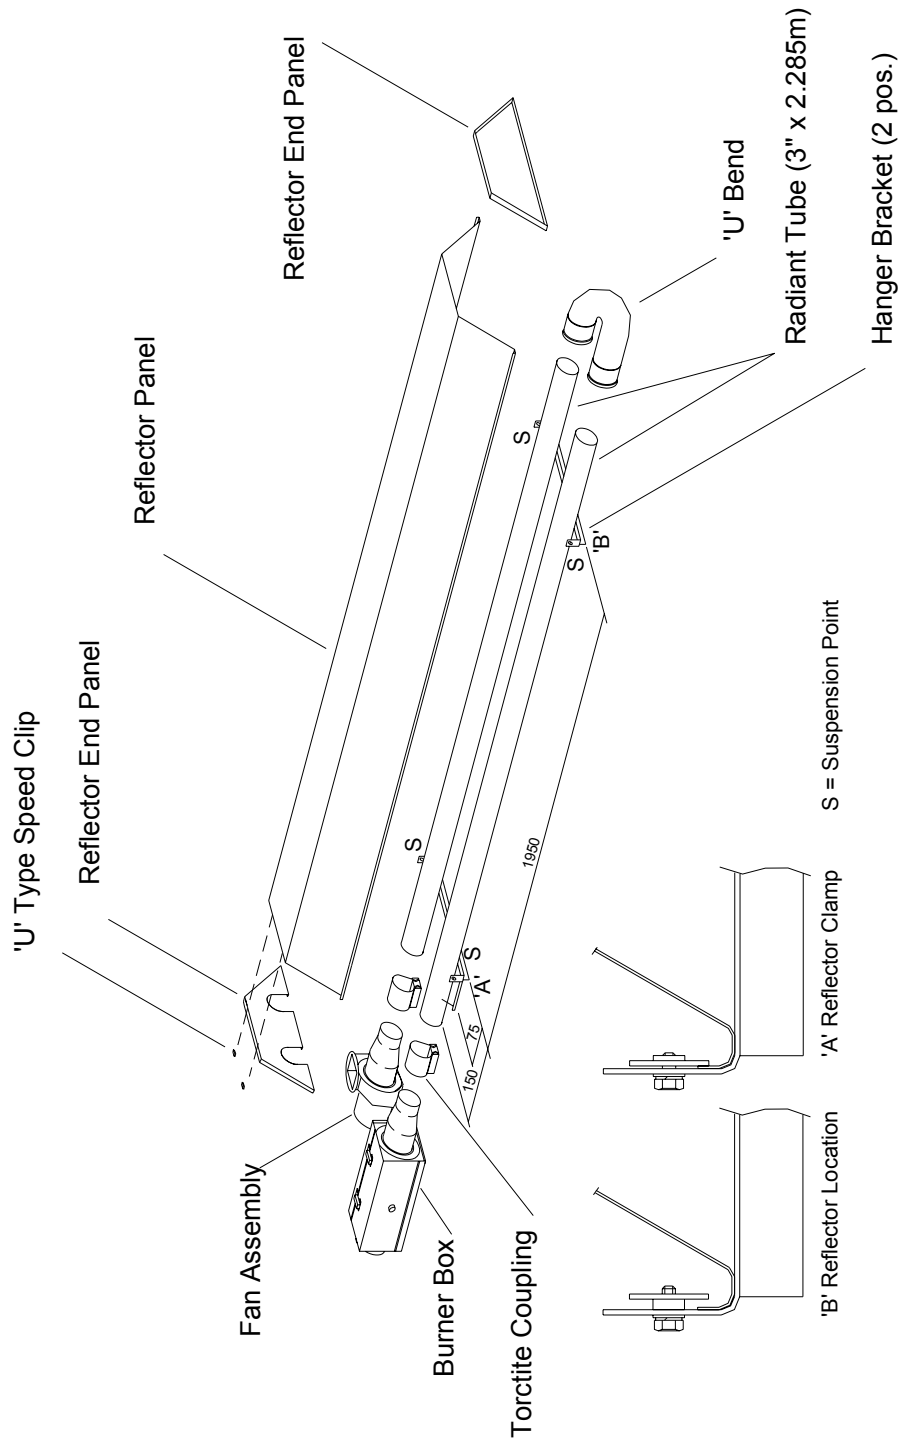

Fig. 17
- 6.1.2 Assemble the two Hanger Brackets to the Radiant Tubes using two 'U' bolts per bracket (from fastenings pack) and position along the Radiant Tubes as shown in Fig 17. Tighten the nuts sufficiently to retain the Hanger Brackets. Do not over tighten.
- 6.1.5 Place the Reflector Panel onto the Hanger Brackets, positioning the Reflector at the Control Box end between the bracket and the Torctite Coupling. Clamp the Reflector to the Hanger Brackets using the retainers and M6 setscrews and washers (fastenings Pack - qty 4) as shown in Fig 17.
- 6.1.6 Position the Reflector End Panel (notched) over the Radiant Tubes and into the end of the Reflector Panel with the End Panel flange flush with the end of the Reflector. Secure the Reflector End Panel to the Reflector Panel by use of 6 'U' type speed clips provided (fastenings pack); 2 clips per facet of Reflector Panel, as shown in Fig 17.
- 6.1.7 The appliance should now be raised and suspended from previously fixed chains or drop rods as detailed in Section 5.1, at suspension points indicated in Fig 17. Rope or webbing slings should be used when lifting from above. If using a forklift to position the appliance, ensure that the appliance is balanced on the forks prior to lifting.